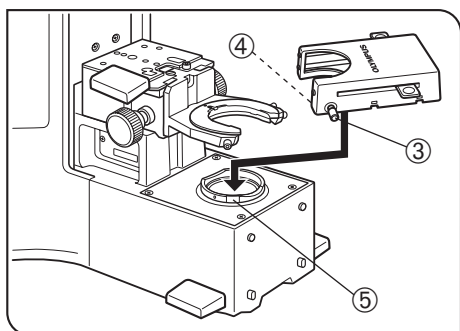
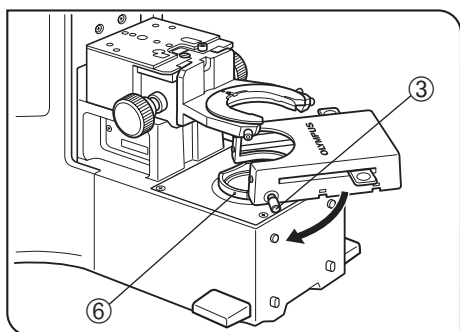

Fig. 20
Fig. 21
1. Fully loosen the filter cassette clamping screw ③. (Fig. 20)
2. Align the key ④ on the bottom surface of the filter cassette with the positioning slot ⑤ on the filter mount, then snap the filter cassette into place from above.
3. Rotate the filter cassette to align its sides with the base. (Fig. 21)
4. Align the clamping screw ③ with the positioning hole ⑥ on the filter mount, then tighten the screw to fasten the filter cassette.